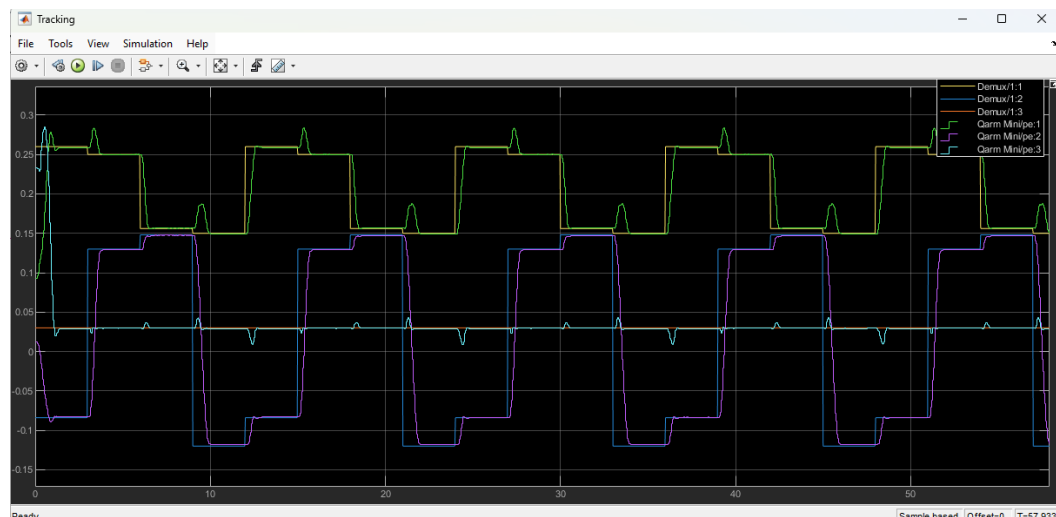

Figure 4. Desired vs Actual End Effector Positions
- Use the **Tracking scope** to monitor the desired and actual end-effector positions as the manipulator cycles between the recorded waypoints shown in Figure 4.